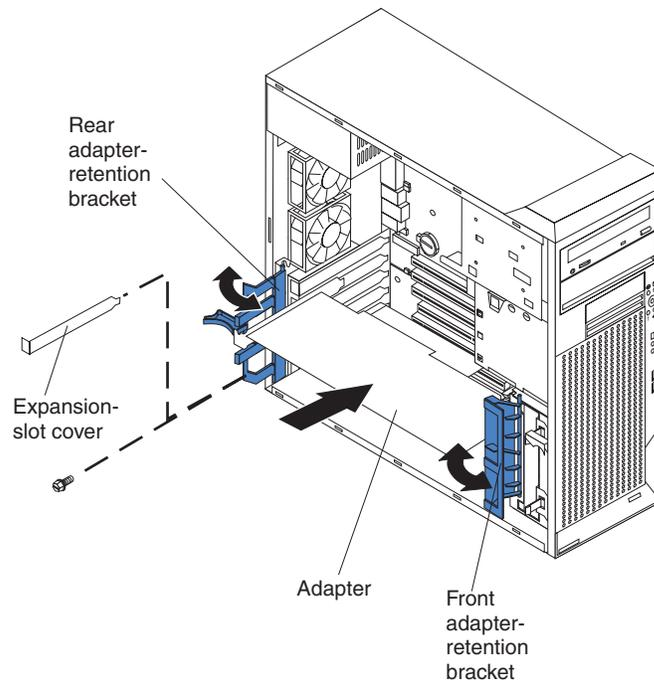

Figure 13. Adapter placement
8. Remove the new or replacement adapter from the static-protective package, carefully grasp the adapter by the top edge or upper corners, and align it with the expansion slot guides (see Figure 13 on page 87); then, press the adapter *firmly* into the expansion slot. Move the adapter directly from the static-protective package to the adapter slot. Avoid touching the components and gold-edge connectors on the adapter.